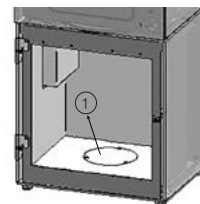

Fig. 3a
1. Place the appliance above the combustion air port in the floor and remove the cladding plate (Fig. 3a).